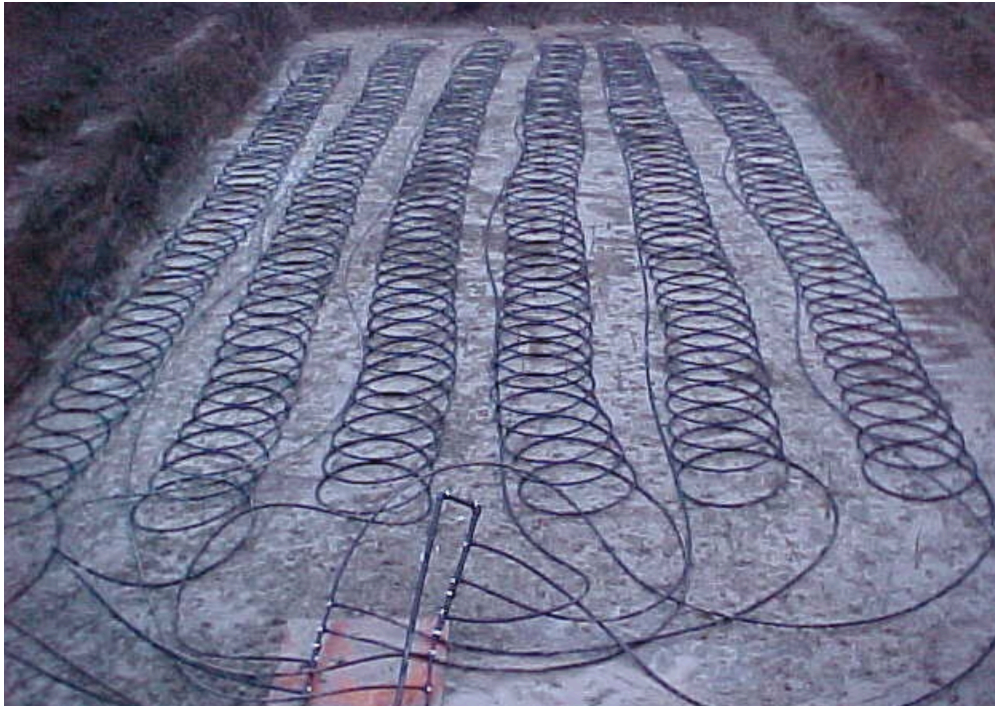

Figure 5 "Slinkies" laid into large-area excavation
- Figure 5 Energy efficiency ratios (EERs) of a typical water-to-water heat pump © Caleffi Hydronic Solutions (<https://www.caleffi.com/usa/en-us>). Used with permission.
Figure 5 below shows pipe fashioned into coils, known as “slinkies” and laid within wide excavated areas. These layouts work well in soils that can be excavated and back-filled using a front-end loader.
Note that in Figures 5 and 6, there is a straight run of pipe beside each coil. This is the return line from the end of the coil. There will be a supply and a return manifold for each field.